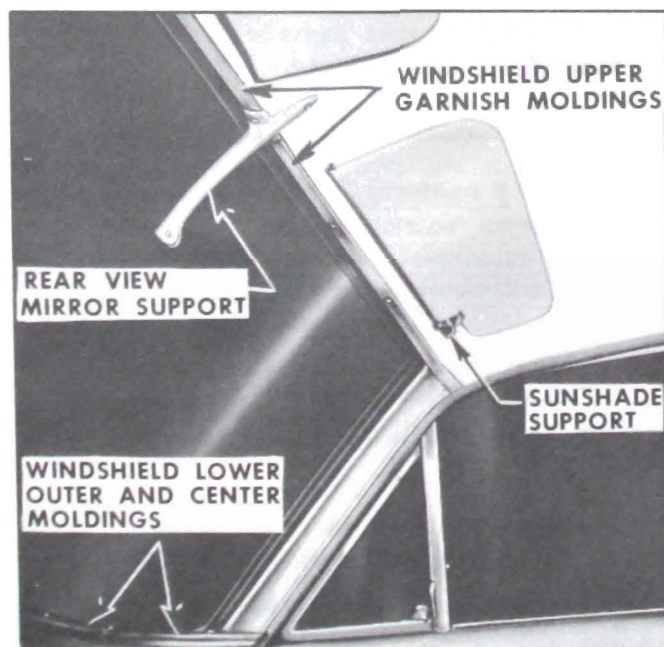

Figure 13-2—Garnish Molding Attachment
moldings. The lower outer moldings must be removed prior to removing the lower center molding. All moldings are secured by screws. See Figure 13-2.
1. Remove screws securing mirror support and remove support. See Figure 13-2.